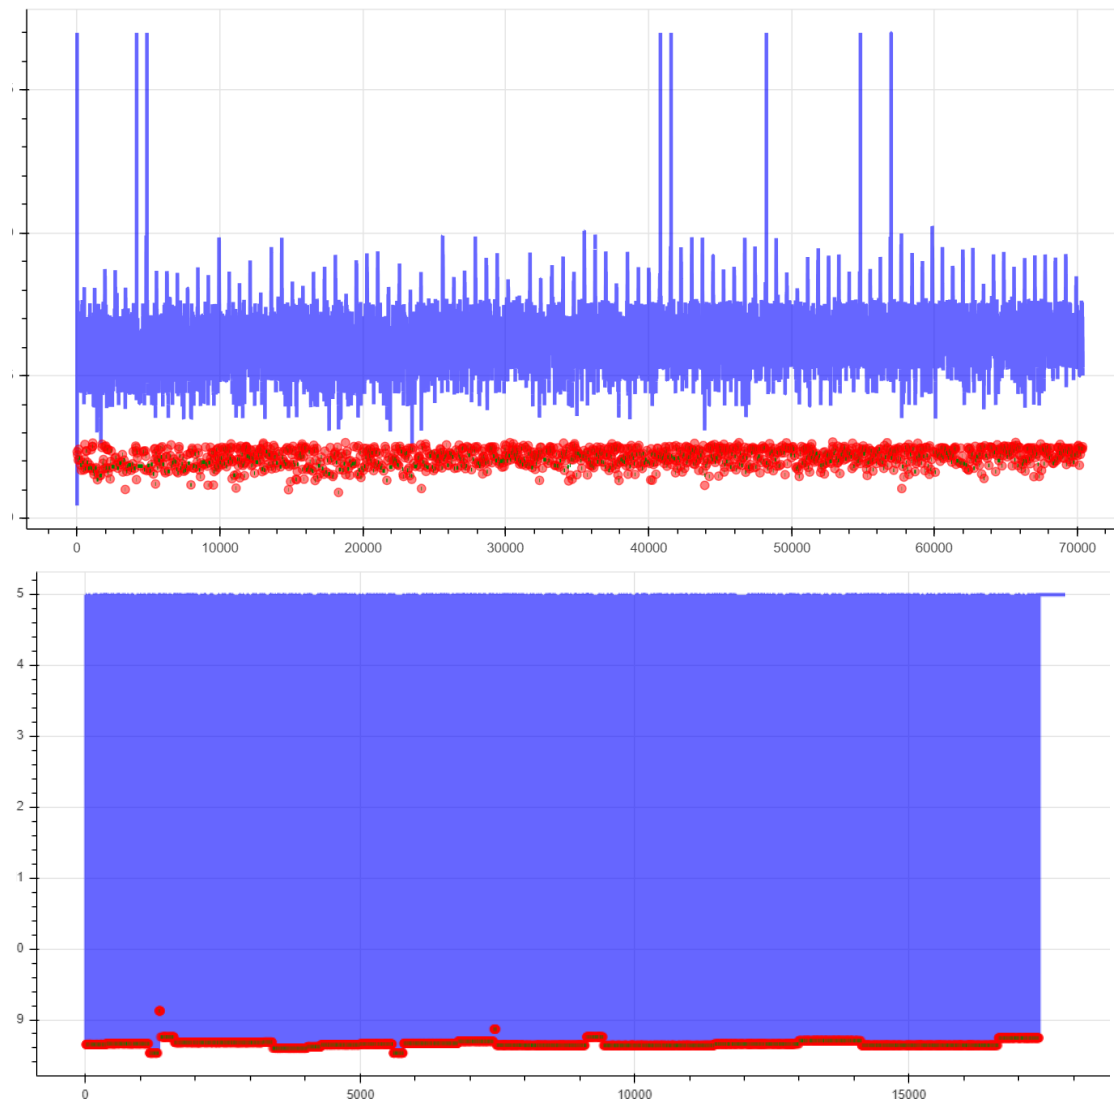

Figure 48 Garbage data
7.1.9.1. Figure 48 Garbage data has multiple causes, all of them serious data errors